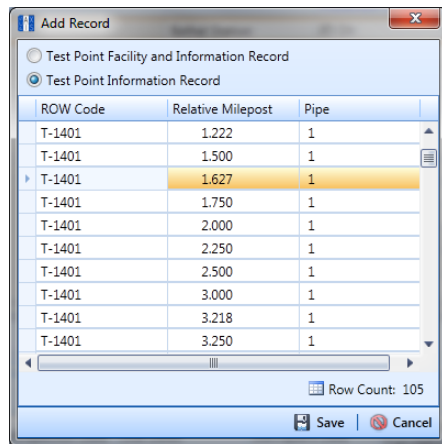

Figure 7-27. Add Record
- 5 Click  **Add** to open the *Add Record* dialog box. (Figure 7-27, page 212).
- 7 Select a facility record in the *Add Record* dialog box that you want to create a history record. For example, the facility record with *Relative Milepost 1.627* is selected in the following figure (Figure 7-27, page 212).